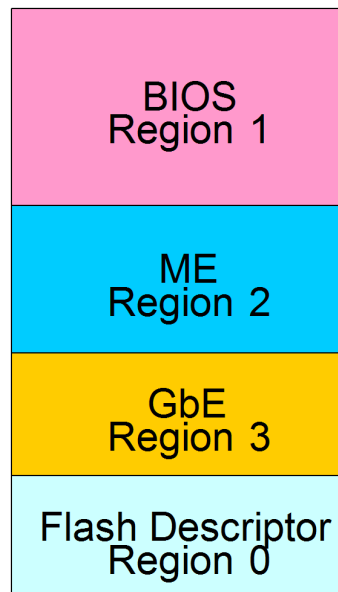

Figure 9-1. LAN NVM Regions
The LAN NVM shares space on an SPI Flash device (or devices) along with the BIOS, Manageability Firmware, and a Flash Descriptor Region. It is programmed through the Intel® C220 Series Chipset. This combined image is shown in Figure 9-1. The Flash Descriptor Region is used to define vendor specific information and the location, allocated space, and read and write permissions for each region. The Manageability (ME) Region contains the code and configuration data for ME functions such as Intel® Active Management Technology. The system BIOS is contained in the BIOS Region. The ME Region and BIOS Region are beyond the scope of this document and a more detailed explanation of these areas can be found in the *Intel® C220 Series Chipset Family External Design Specification (Intel® C220 Series Chipset EDS)*. This document describes the LAN image contained in the Gigabit Ethernet (GbE) region.